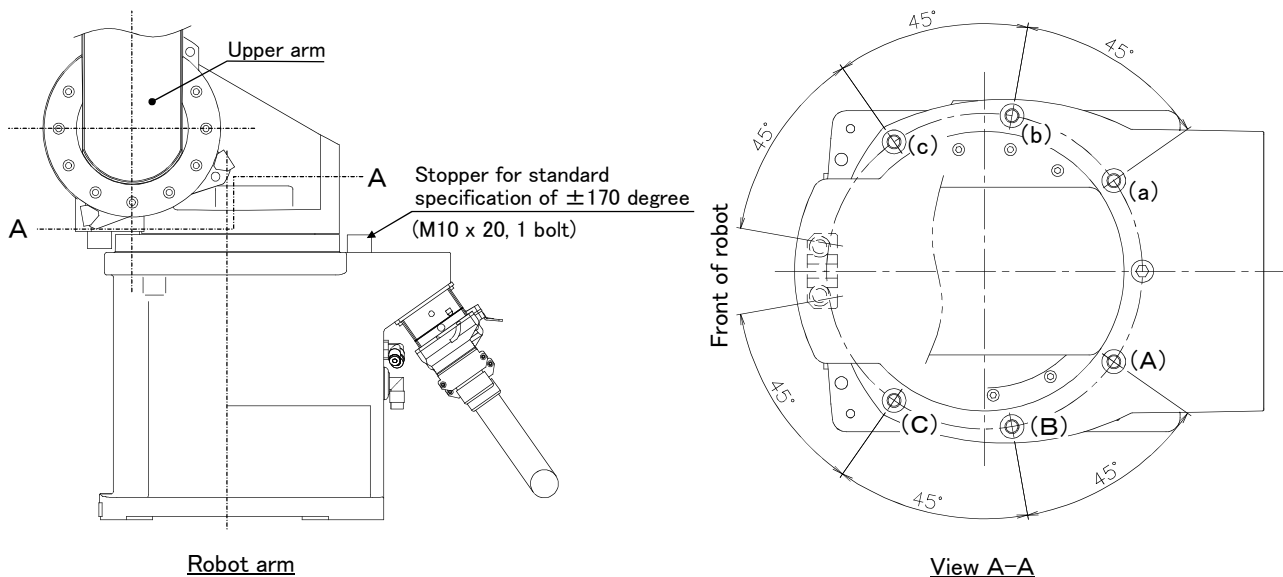

Fig.3-6 : Installation of operating range change option
Note) The insertion position given in the table indicates the insertion position for the operating range change stopper. (Refer to Fig. 3-6.)
- 1) Move the upper arm to the posture as shown in Fig. 3-6 by jog operation.
- 3) By referring to Table 3-2 and Fig. 3-6, insert the two stoppers (M10 x 20) used to change the movement range of J1 axis at the angular position to be changed, and fix securely by applying a clamping torque of 70 N · m to 86 N · m.
**CAUTION** Do not remove the stopper for the standard specification of  $\pm 170$  degree shown in Fig. 3-6.